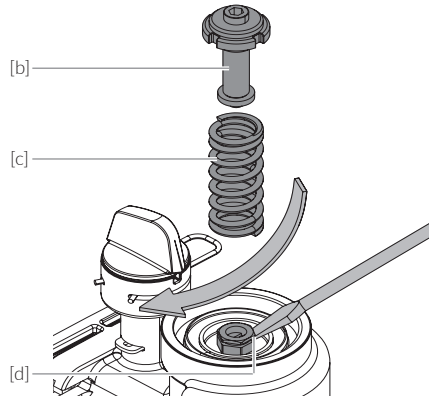

Fig. 8.13
- / Fig. 8.13: Remove adjusting screw unit [b] and spring [c]